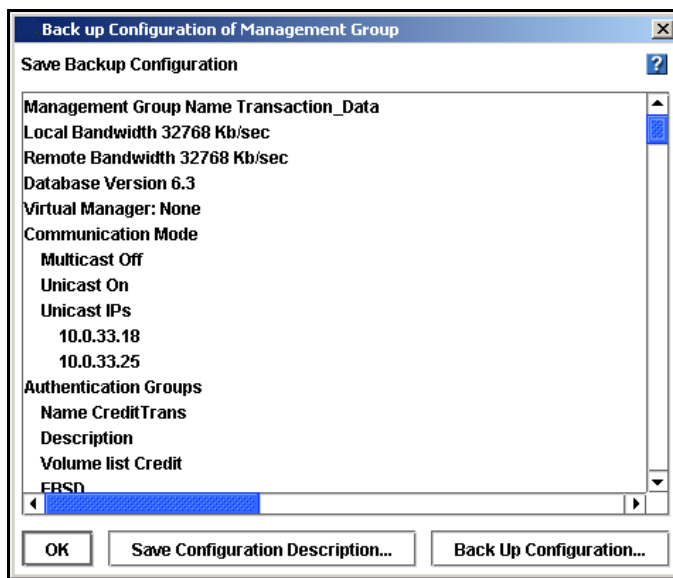

Figure 145. Backing up the Management Group Configuration
2. From the Tasks menu on the Details tab, select Back up Configuration of Management Group. The Back up Configuration of Management Group window opens, shown in Figure 145.